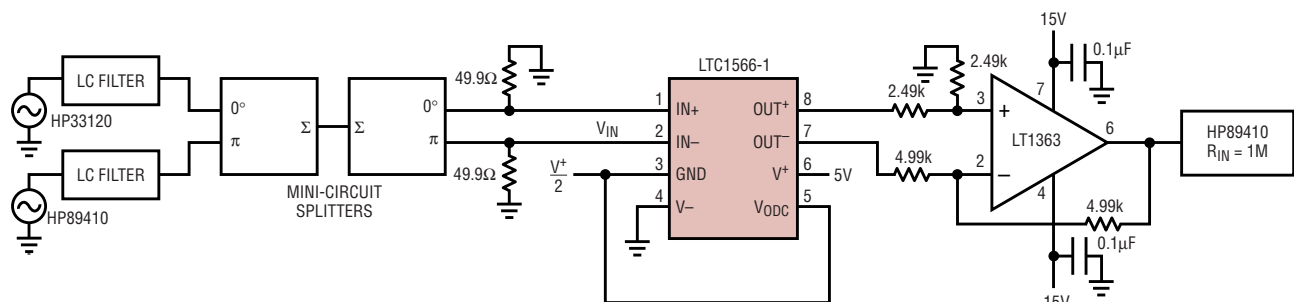
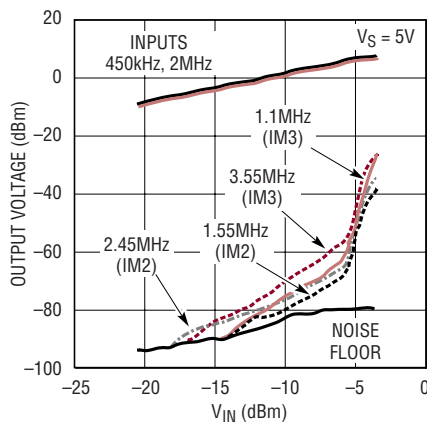

Figure 6. Test circuit for intermodulation distortion
Figure 7. 450kHz/2MHz intermodulation, $V_S = 5V$
products (IM3), however, may fall within the passband or in the vicinity of the band edge of the circuit and their presence can limit system performance. Figure 6 shows the actual test circuit with 455kHz and 2MHz tones simultaneously applied at the filter's differential inputs. Figure 7 shows the measured IM3 products ($2 \times 2\text{MHz} - 455\text{kHz} = 3.55\text{MHz}$, and 2
As shown in Figure 7, the excellent linearity of the LTC1566-1 provides an intermodulation ratio (IM) of better than 70dB for output levels of -3Bm or lower. The IM performance of the LTC1566-1 is better than some commercially available passive LC filter modules.